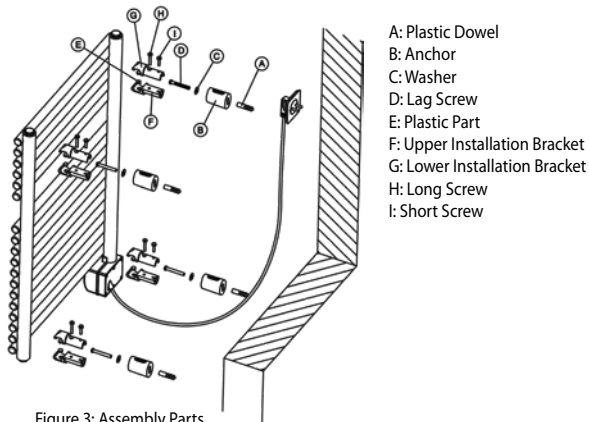

Figure 3: Assembly Parts
3. After marking the points according to Figure 3, the holes will be drilled by a 010 mm drill and the plastic dowels (see figure 3-part "A") that are in the installation items are inserted to these holes.
4. Attach the anchors (4 pieces) (see figure 3 - part "B") onto plastic dowels with the washer (see figure 3 - part "C") and the screw (see figure 3 - part "D")
5. Insert the plastic parts (see figure 3 - part "E") into the lower installation bracket (see figure 3 - part "G") and fix the installation brackets (see figure 3 - part "F-G") on the tubes with the screw (see figure 3 - part "H").
6. Attach the installation brackets (4 pieces) on the towel warmer and fix the towel warmer on the wall by screwing (see figure 3 - part "I") the installation brackets onto anchors (see figure 3 - part "B") on the wall.